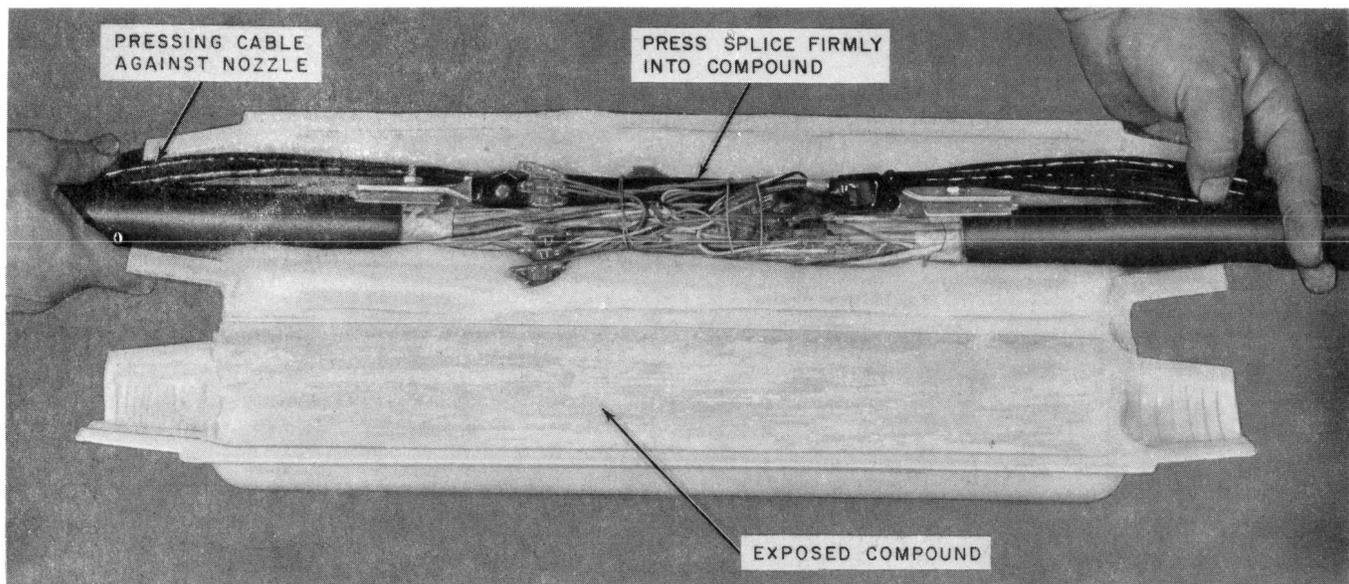

Fig. 13—Placing Cable in Closure
3.15 Place the closure around the cable opening, then **press** cable firmly until it rests against nozzle (Fig. 13). Press splice firmly into compound.